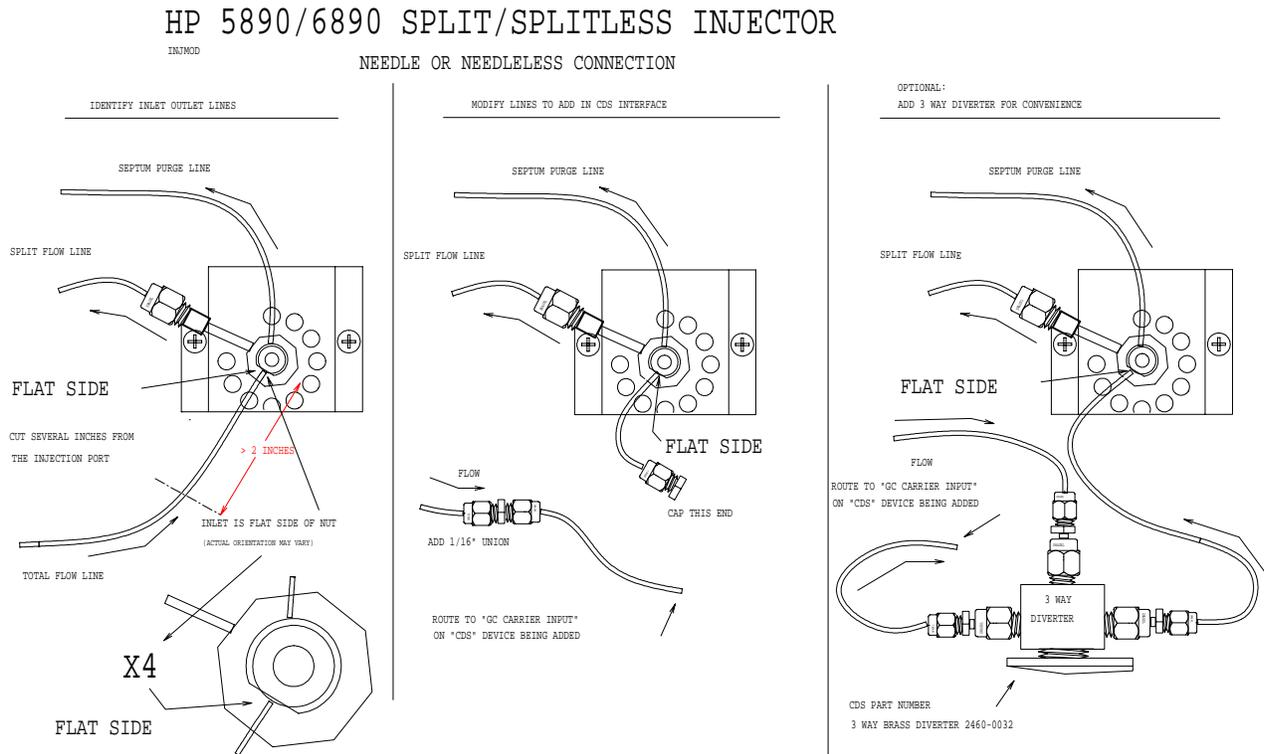

FIGURE 5.6.
As with the 1500 interface, the 5150 requires connection of the GC carrier gas to the valve oven of the Pyroprobe to transfer the pyrolysate from the probe to the GC injector (see Figure 5.6 on page 5.10, and Figure 5.7). A separate connection is provided for purge gas, which is controlled by the flow controller on the front of the 5150, and purges the interface zone to vent when the unit is off-line.
1. Install the Swagelok diverter as shown in Figure 5.6 on Page 5.10.